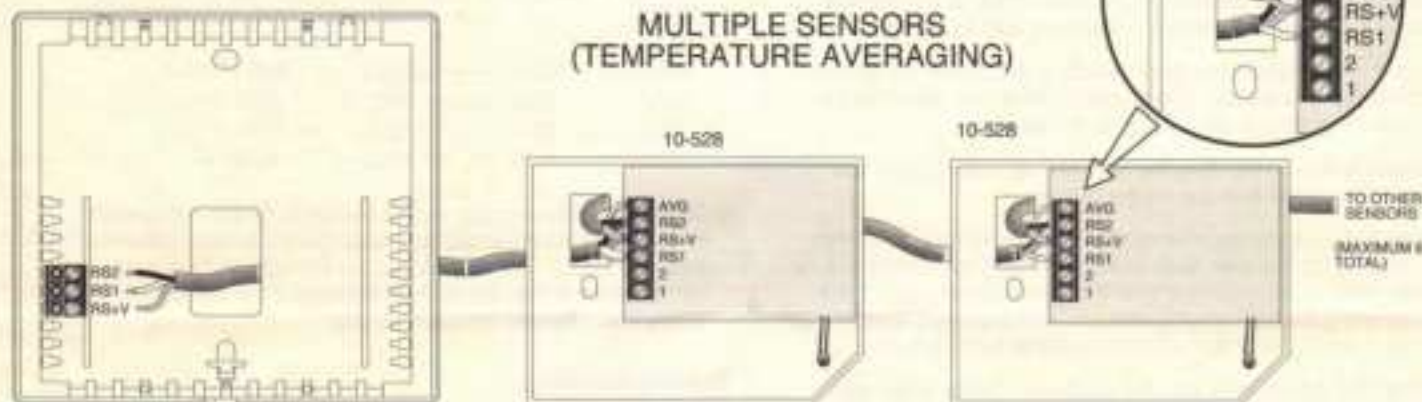

Figure 2
3. Connect wires to each additional sensor in the following manner. An outdoor sensor also can be connected in any location in the chain. (Refer to Figure 2 also.)